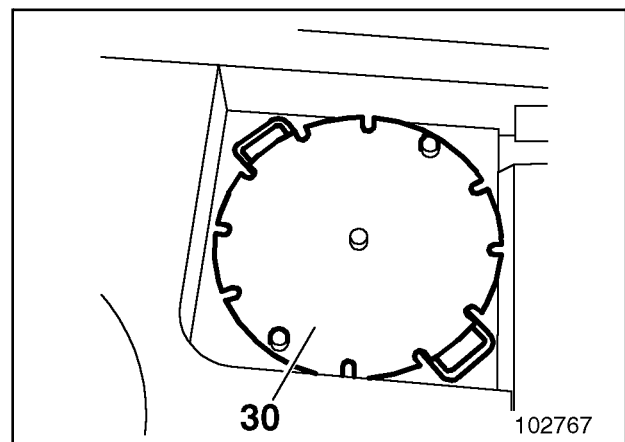

Fig. 15
- The screens of the bypass valves in the filter housing (cooling system) must also be cleaned. The bypass valves are located under the cover (30, Fig. 15). (Cf. "Bypass valves / Filter housing (cooling system)").